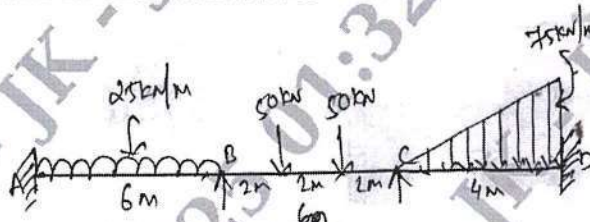

Fig.Q.9
**Q.9** Analyze the continuous beam shown in Fig.Q.9 by moment distribution method. Draw BMD and elastic curve. **20 L4 CO5**